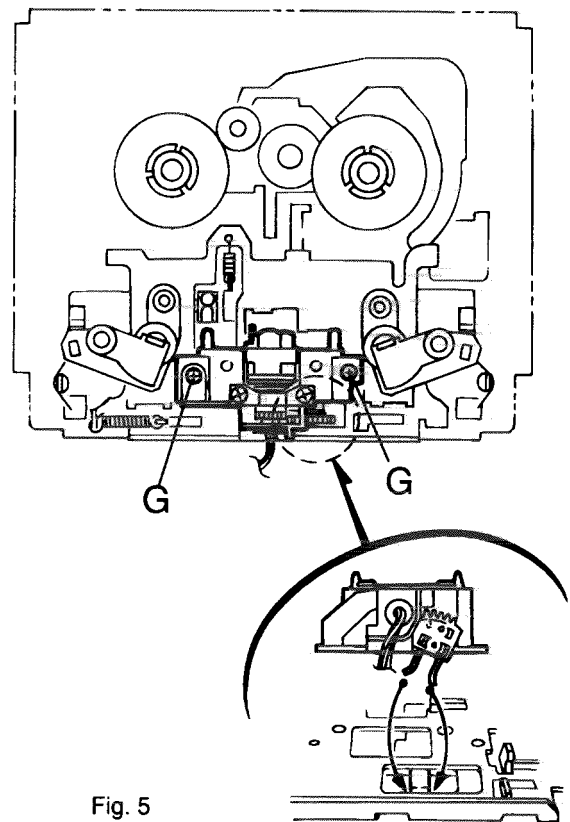

Fig. 5
■ **Detaching the mechanism (Figs. 5 to 11)**